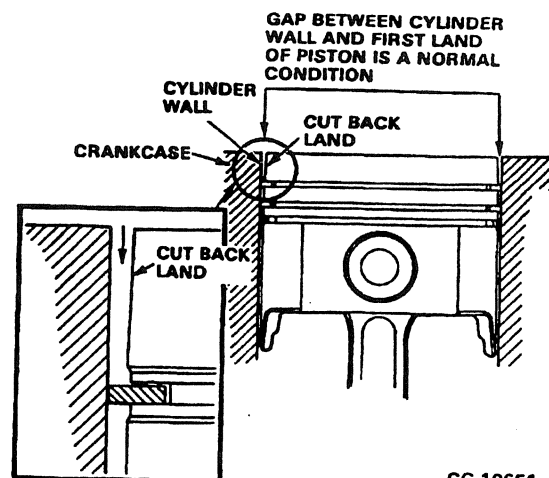

Figure 5.4. Piston with Cutback Land
2. All 7.3 Liter Diesel Engines have a "CUT-BACK LAND" piston design. Refer to **Figure 5.4**.
**NOTE:** Top and intermediate (2nd) rings are to be installed with identification marks facing up. Refer to Figures 5.4 and 5.5.